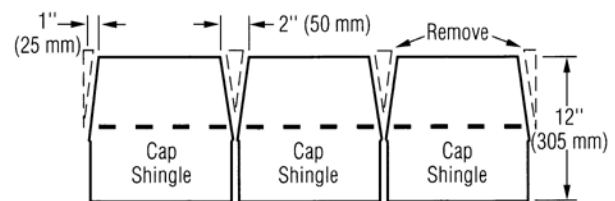

Figure 12-23: Cut tabs, then trim back to make cap shingles.
2. Make the caps by cutting full-length shingles at the tab cutouts. Trim the back end of the caps as shown in Figure 12-23. If you are installing Classic Horizon Shangle®, you could either cut your own caps or use CertainTeed General Accessory shingles.